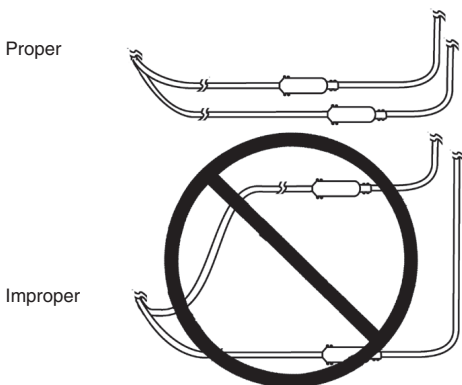

Figure 2. Routing for multiple lead-extensions.
- When multiple leads are implanted, route the lead-extensions so the area between them is minimized (Figure 2). If the lead-extensions are routed in a loop and the patient is exposed to some sources of electromagnetic interference (eg, theft detectors), the patient may perceive a momentary increase in stimulation, which some patients have described as uncomfortable stimulation (jolting or shocking sensation).